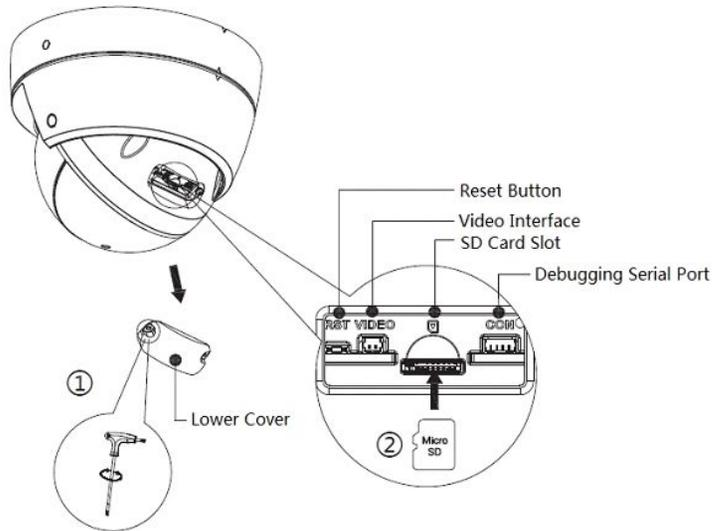

Figure 2-7
Step 1 Refer Figure 2-7 for access panel location. Remove the panel to access SD card slot and reset button.